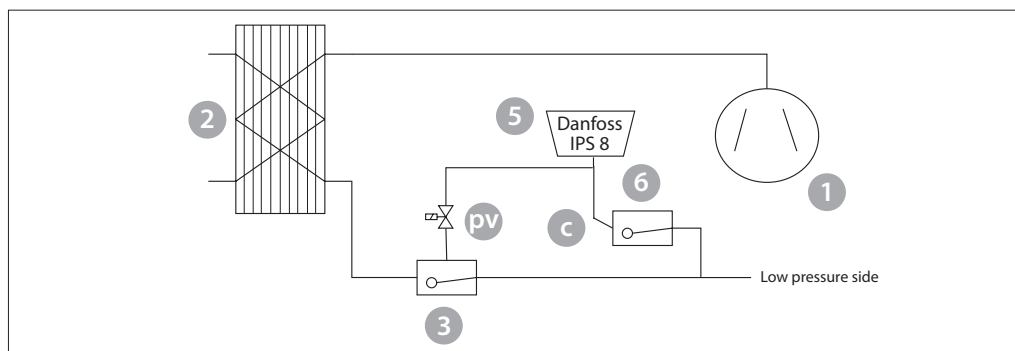

Fig. 8 Purger connections (pv). Drain Piping (c) must be vertical/downward slope
For systems with a high-pressure liquid level control, the air will collect in the float valve (3). (See fig. 8).